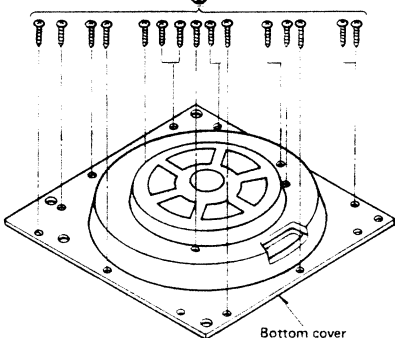

Fig. 10
3. Remove the 15 setscrews (Fig. 10 : 39) of the bottom cover.